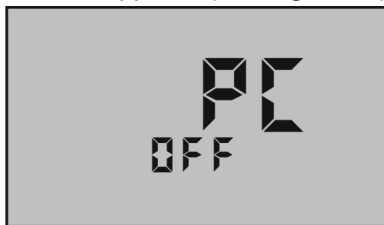

Figure 30
2. Put the Ultrameter III in “PC On” mode by pressing the  key until “PC OFF” appears (see Figure 30).